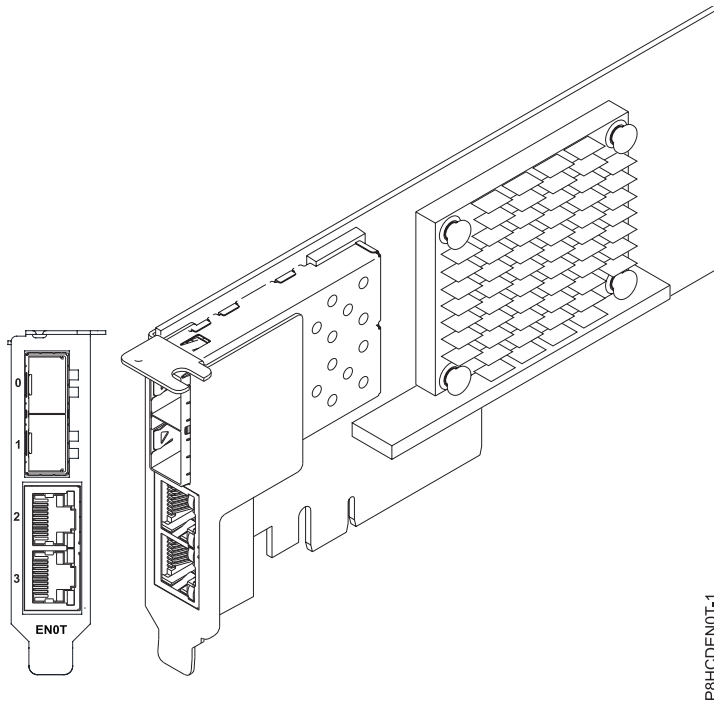

Figure 21. FC EN0T adapter
The four-port adapter provides two 10 Gb small form-factor pluggable (SFP+) optical SR transceiver ports and two 1 Gb RJ45 Ethernet ports. The two 10 Gb SR ports have little connector (LC) duplex-type connectors. The optical transceiver uses shortwave laser optics and is attached with MMF-850nm fiber cabling with LC connectors. See “Cables” on page 60 for more information about the optical cables. Each 10 Gb port provides Ethernet connectivity with a nominal data rate of 10 Gbps (gigabits per second). Figure 21 on page 60 shows the FC EN0T adapter.